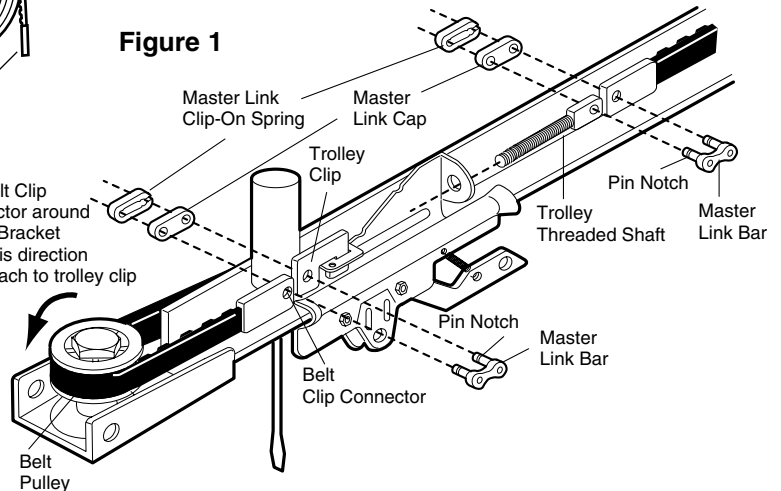

Figure 1
1. Drop the notched side of the trolley clip into the retaining slot on top of the trolley (Figure 1).
5. Use the second master link to connect the belt to the flat end of the trolley threaded shaft (Figure 1). **Check to make sure the belt is not twisted.**